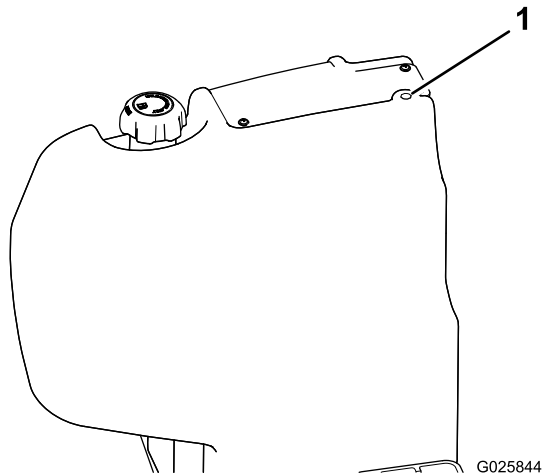

Figure 1
1. Locate the vent boss on the top of the fuel tank (Figure 1). Drill a 17/32 inch diameter hole through the center of the boss.